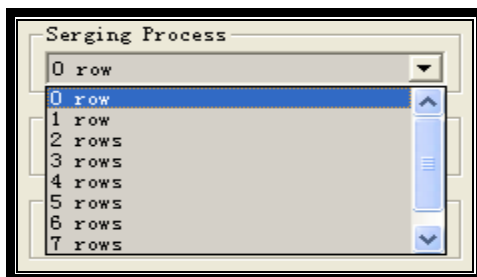

Fig.3-29
Step28: Click the drop-down option in the frame of **Serging Process** and choose the covered row number of LED Screen. As shown in fig.3-29.